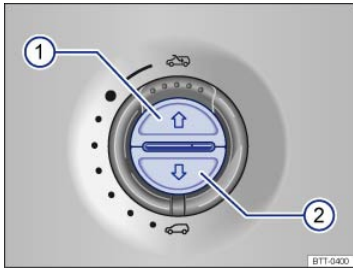

Fig. 194 In the headliner: Buttons for sunshade.
- Press and hold the button ⇒ Fig. 194 ② for about 5 seconds until the sunshade is completely closed.